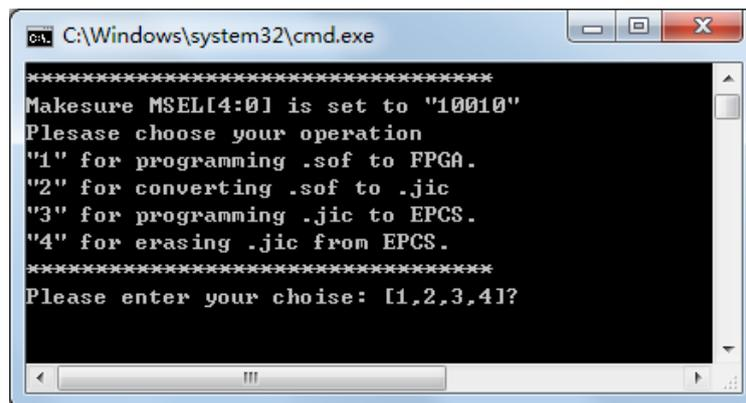

Figure 5-1 Command line of the batch file to program the FPGA and EPCS device
- For the ease of execution, a demo_batch folder is provided in the project. It is able to not only load the bit stream into the FPGA in command line, but also program or erase .jic file to the EPCS by executing the “test.bat” file shown in Figure 5-1